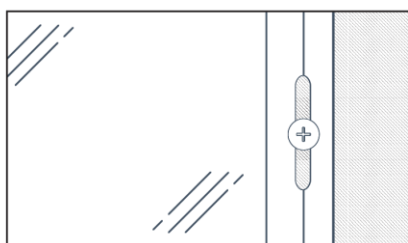

Fig. 2
- Always fasten in the center of the screw flange slots; fastening at the end of the slots can cause the panels to buckle or distort (Fig 2).